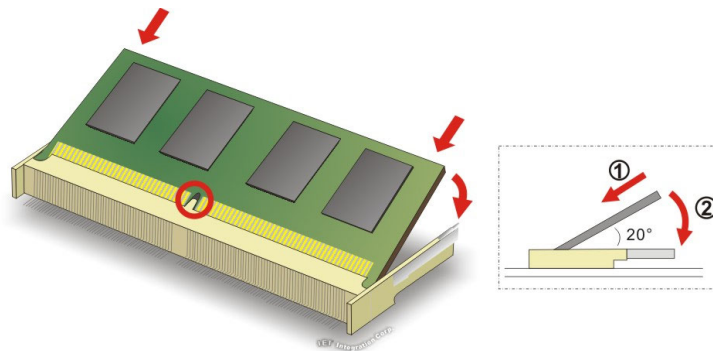

Figure 6-4: SO-DIMM Installation
- Step 5:** To install a new SO-DIMM, align the SO-DIMM so the notch on the memory module lines up with the notch on the memory socket (**Figure 6-4**).
- Step 6:** Push the SO-DIMM into the socket at an angle (**Figure 6-4**).
- Step 7:** Gently push downwards and the arms clip into place (**Figure 6-4**).